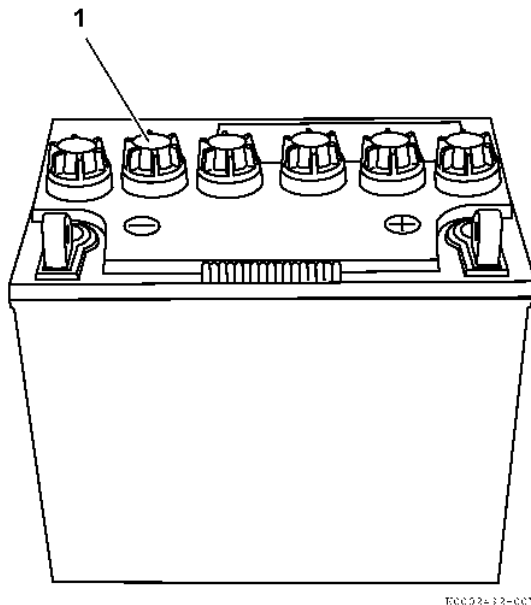

Figure 41
10. Install caps (**Figure 41, (1)**) onto battery. Hand-tighten caps. Do not over-tighten.